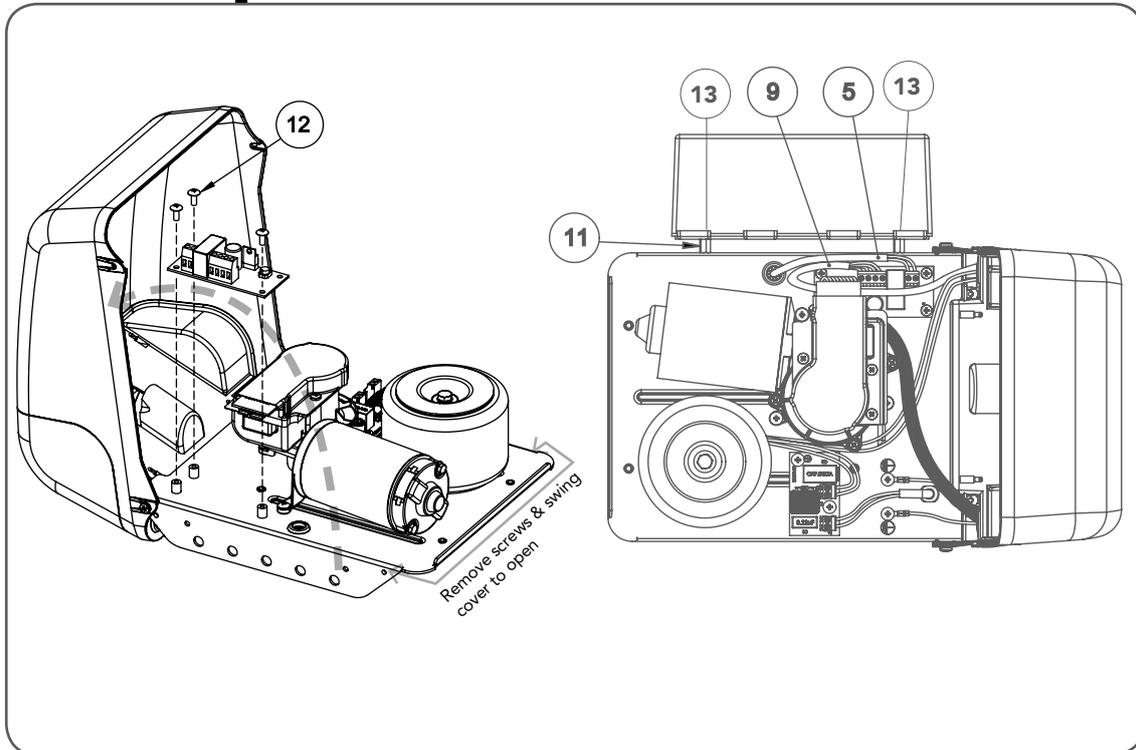

fig 03
- Remove screws and swing open the cover (**Fig 03**).
- Mount the PCB support with two screws (12). Secure the SBY-3 Charger Board onto the PCB support with three (3) screws (14).
- Feed the 2-wire battery harness (5) through the grommet on the base plate and connect to SBY-3.
- Mount battery pack and secure with item 6 and 11.